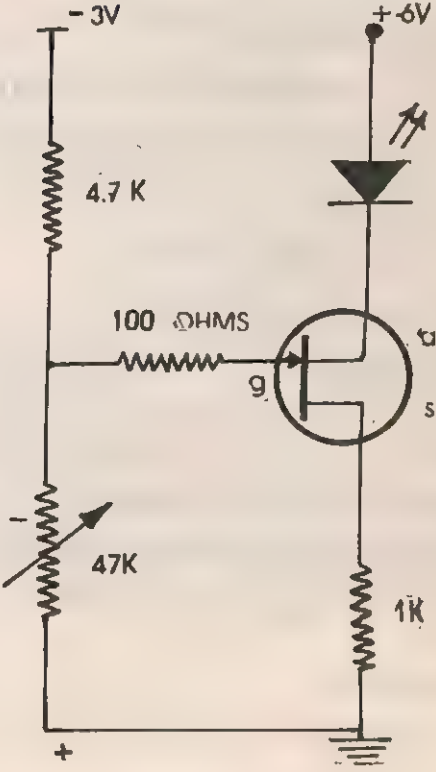

Fig. 15.4
1. Connect the circuit as shown in Fig 15.4.
2. What would happen in the source resistance of 1K Ω in Fig. 15.4 is replaced by 5K Ω .
4. Why a resistance of 100 Ω is connected in series with the gate of FET in Fig. 15.4?